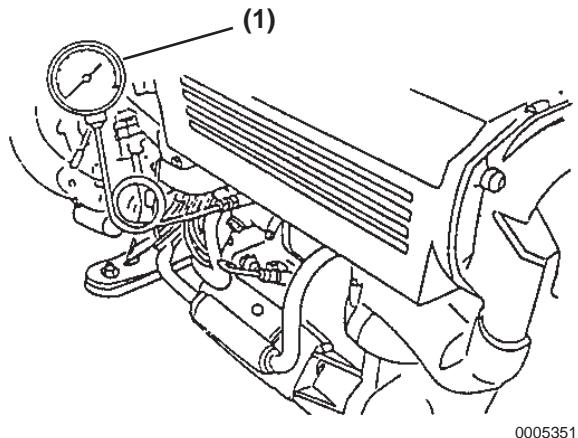

Figure 8-1
2. Remove the oil pressure sender unit and attach an oil pressure gauge (**Figure 8-1, (1)**).